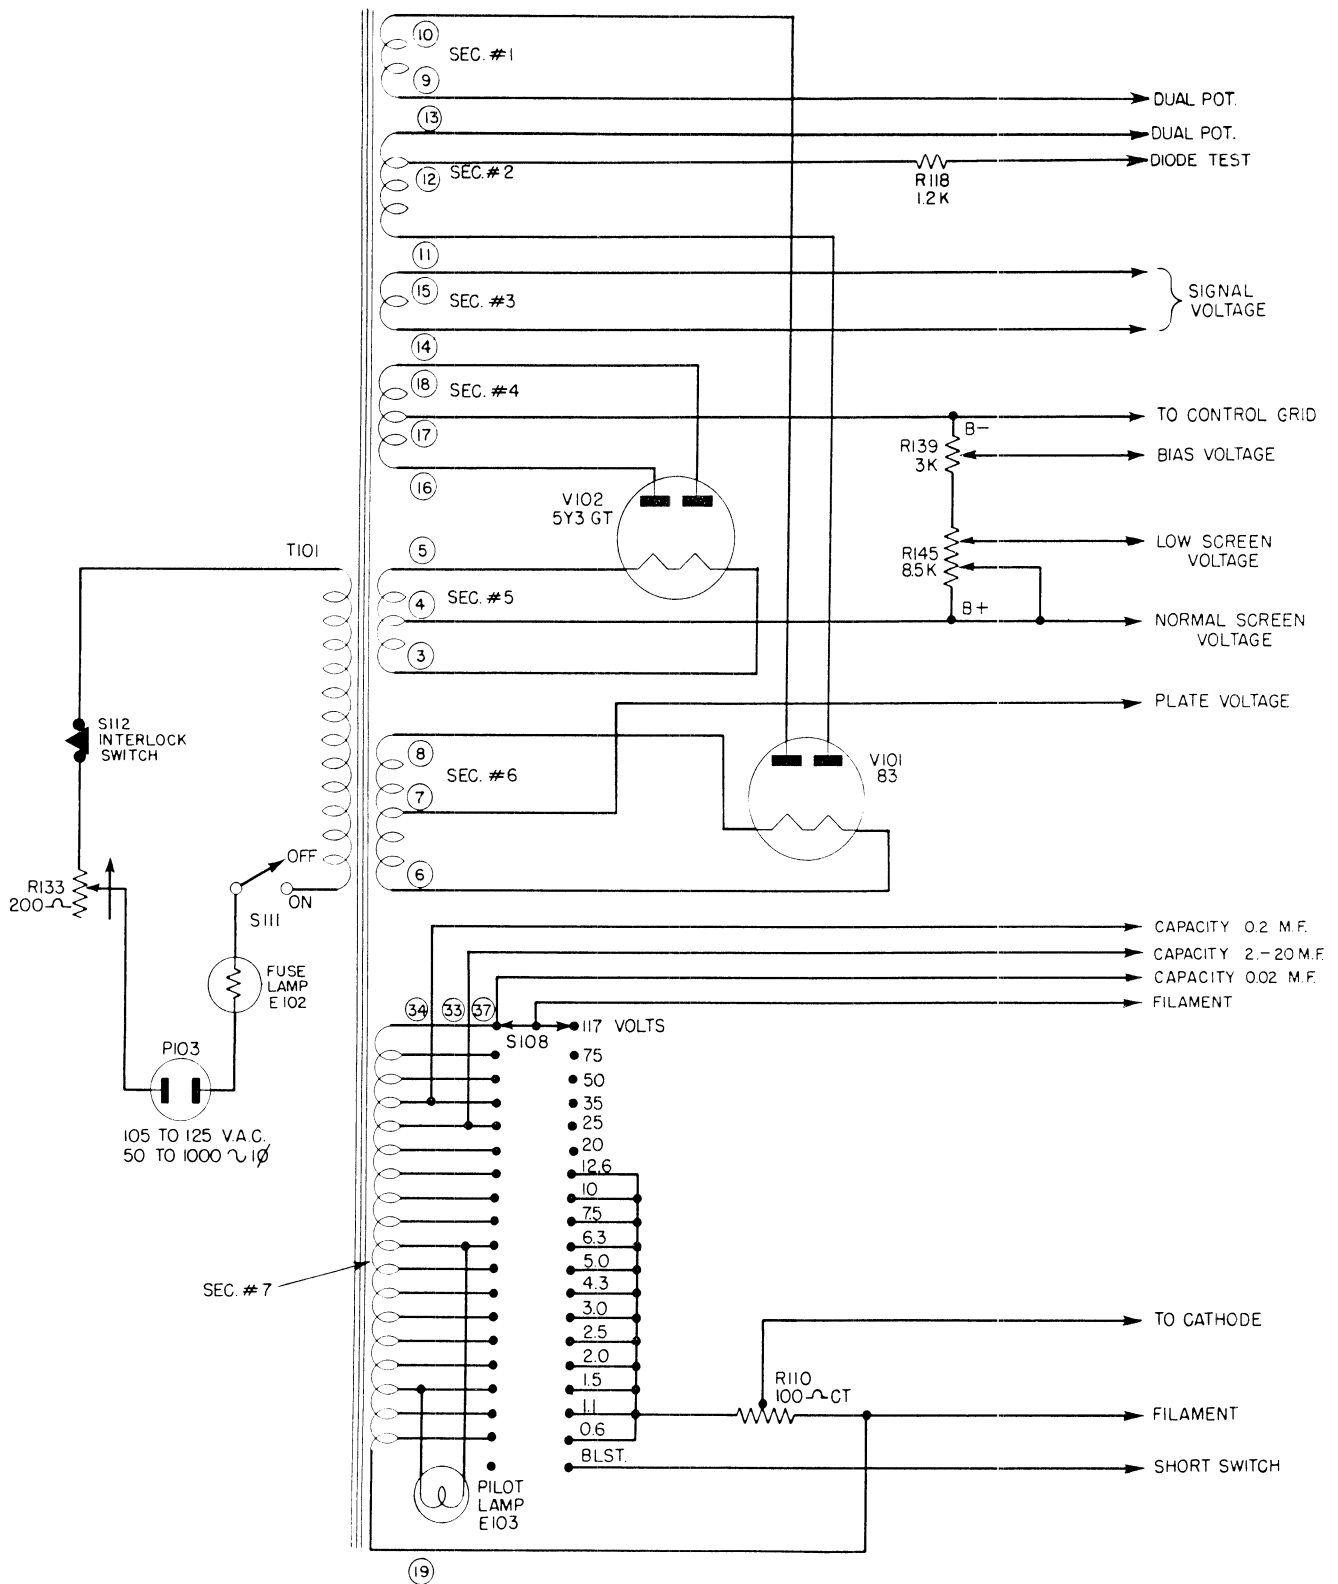

Figure 2-3. Simplified Power Supply Circuit
### 3. POWER SUPPLY. (See Figure 2-3)
b. Secondary #7 of power transformer T-101 consists of a multi-tapped winding designed to supply the various filament or heater voltages for the tubes under test. Voltages shown on figure 2-3 are measured under load. No load voltages will be somewhat higher. For example: no load voltage measured from point 19 to point 37 will be approximately 121 volts with 93 volts on the primary. Secondary #7 also supplies voltage for rectifier emission tests.